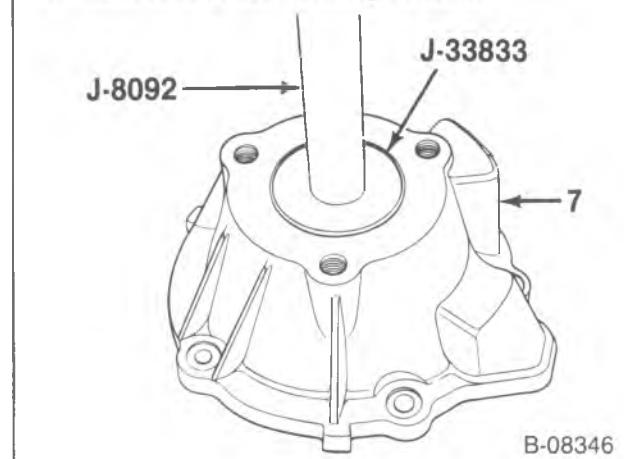

Figure 27—Rear Output Shaft Bearing Installation
29. Output bearing (10) into the rear retainer (7) using J 33833 and J 8092. Press the bearing until its seated in the bore (figure 27).